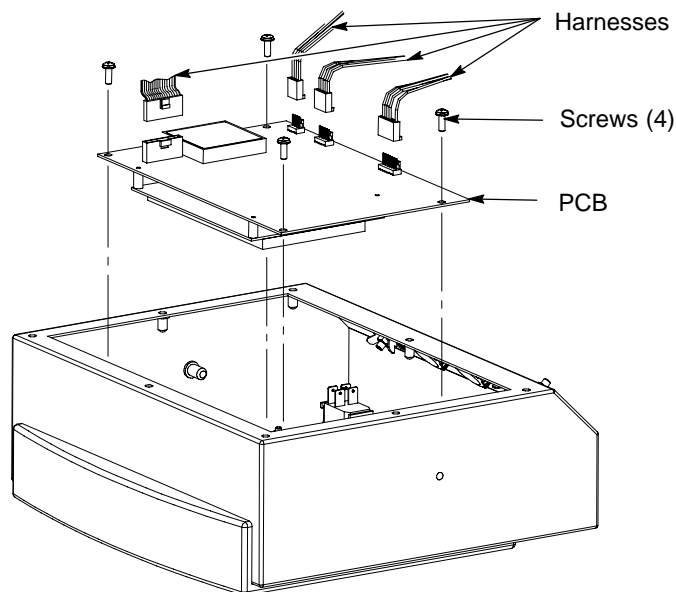

Figure 2 Disconnecting harnesses and removing PCB
2. See Figure 2. Disconnect all wire harness connected to the circuit board. Note where each harness is connected so they can be properly reconnected.